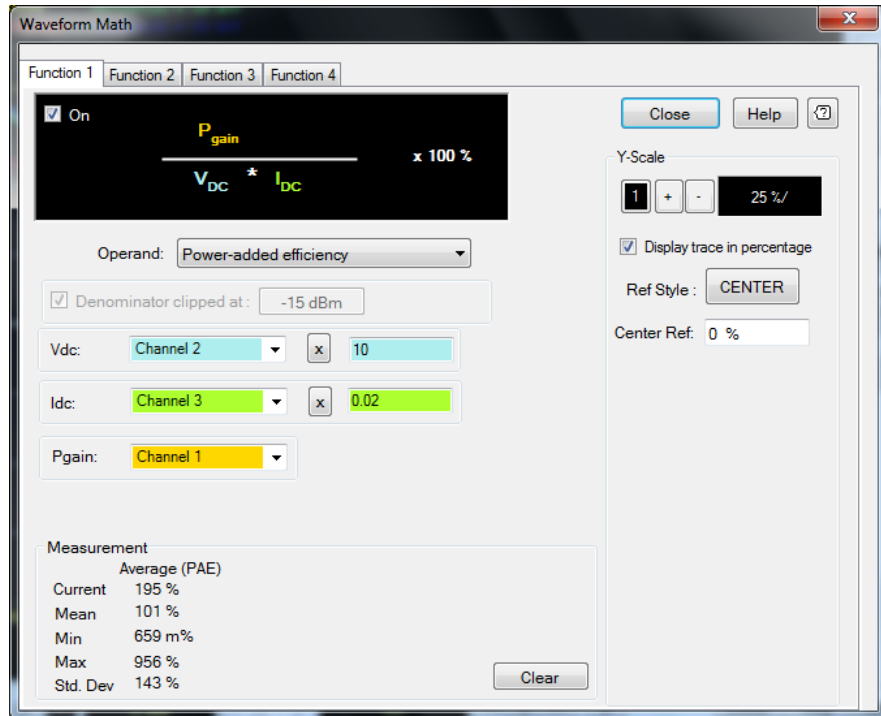

Figure 2-63 Power-added efficiency
- 1 Select **Power-added efficiency** at the Waveform Math dialog as shown in Figure 2-63.